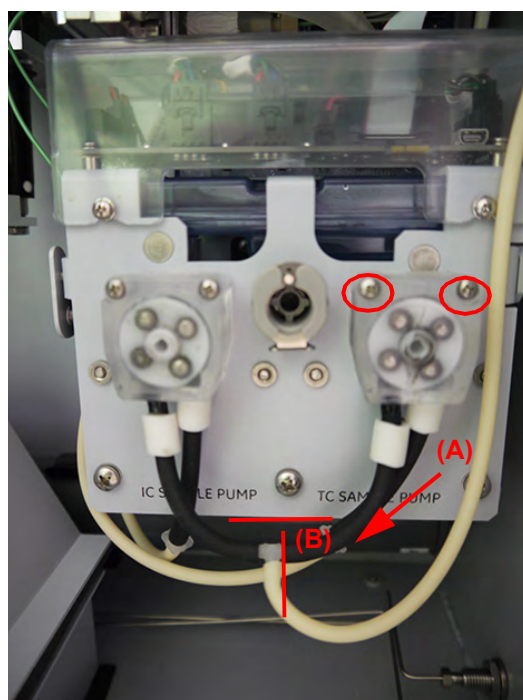

Figure 54: Sample Pump Heads and Tubing — TC Side
2. Open the Analyzer and locate the two sample pump heads Figure 54. Refer to “Interior Views of the Analyzer” on page 168 if needed.
3. To remove the TC pump head, disconnect the right *inlet* tubing coming out of the pump head from the fitting at the end of the TC waste tubing **(A)**, Figure 54.
4. Disconnect the left *outlet* tubing coming out of the sample pump head from the T-connector **(B)**, Figure 54.
10. Connect the left tubing end to the T-fitting **(B)**, Figure 54.
11. Connect the right tubing end to the TC waste tubing **(A)**, Figure 54.